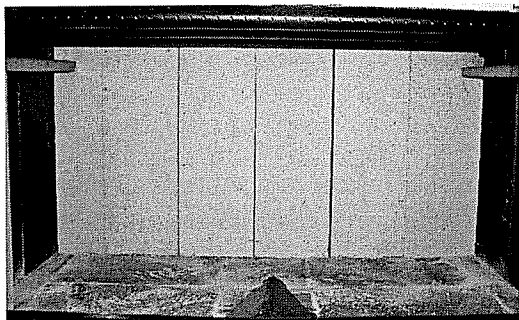

Figure 11A
4. INSTALL THE FIREBRICK - *Figures 11A - 11E*
Step 1: Position (5) 4 1/2" x 13 1/2" & (1) 2 1/2" x 13 1/2" firebrick at the back of the firebox. **Figure 11A.**